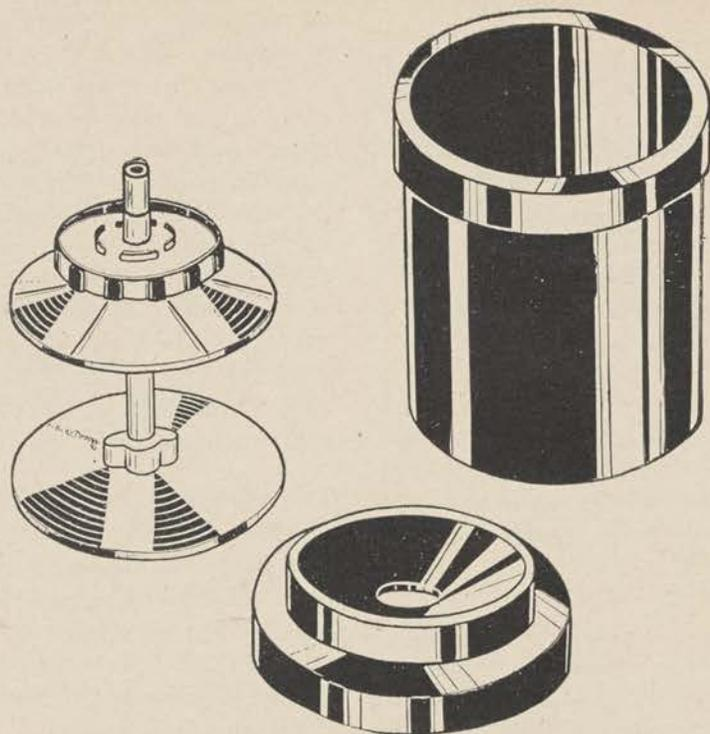

Figure 271.
*a.* Either a stainless steel or bakelite adjustable tank may be used (fig. 271). The loading of the tank must be done in complete darkness for panchromatic film. Orthochromatic film (Verichrome or Plenachrome) may be exposed to a dark red safelight, such as one with a Wratten Series 2 filter. Read the instructions in the film package concerning the proper safelight. These instructions will also mention that total darkness is necessary, if that is true. To be absolutely sure, ask at the photographic supply store when you buy film. Practice loading the tank in bright light with a roll of waste or developed film. Read the instructions supplied with the tank and follow them very carefully. The commonest tank has matched spiral grooves at the top and bottom of the reel. Hold the film between thumb and forefinger of the right hand and the reel in the left hand. Thread the beginning of the film into the groove and push gently. If the grooves are wet the film will stick. Feed the film into the reel until it is completely threaded. When you become practiced at loading with the dummy film in bright light, try a roll in the darkroom. Before starting